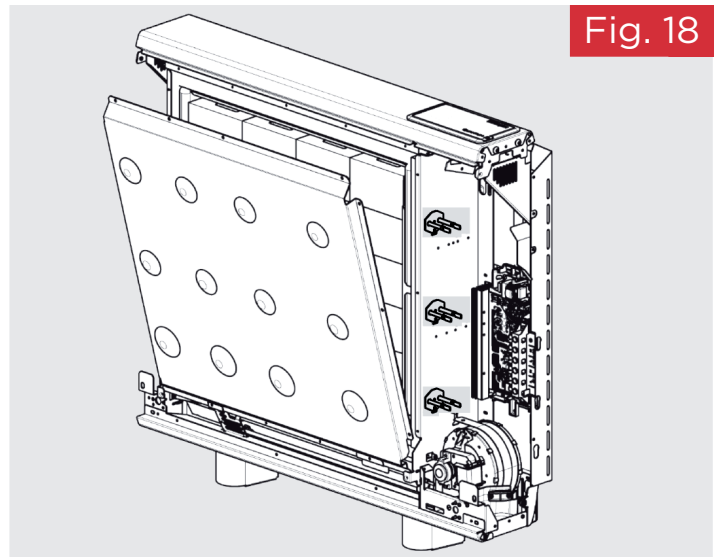

Fig. 18
18. Close the core by refitting the inner front panel complete with insulation. Ensure the bottom tabs are located inside the chassis and that the screws are tightly secured down each edge. (Fig. 18)